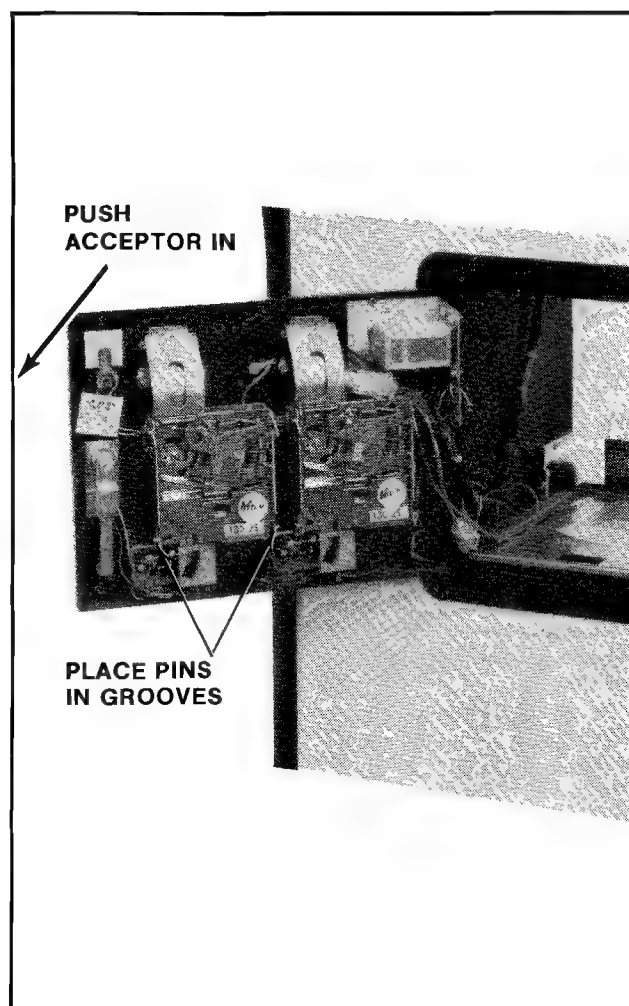

Figure 35 Reinstalling coin acceptor
9. Reinstall the coin acceptor to the coin door. See Figure 35.
6. Reinstall the coin acceptor to the coin door. See Figure 35.